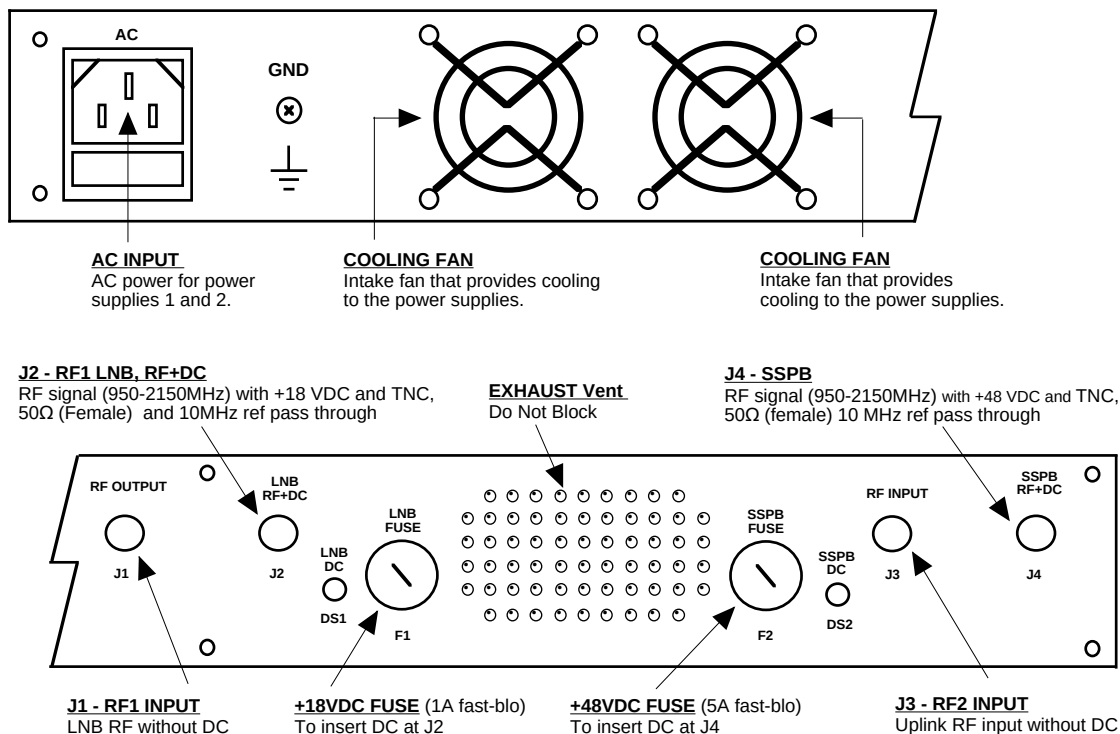

FIGURE 2.2 Rear Panel Outputs
Figure 2.2 shows the input and output signals and indicators on the rear panel.
1. Connect 950-2150 MHz receiver equipment to RF1 OUT, J1 (Fig. 2.2).
2. Connect RF1+DC OUT, J2, to LNB (Fig. 2.2).
3. Connect RF2 +48VDC, J4, to SSPB (Fig. 2.2).
5. Enable FP LNB Power Switch if +18VDC, 1.0A max. is to be inserted on J2 (Fig. 2.2).
6. Enable FP SSPB Power Switch if +48 VDC, 5A max. is to be inserted on J4 (Fig. 2.2)
7. Connect 100-240 $\pm$ 10% VAC, 47 - 63 Hz to AC connector on the rear panel (Fig. 2.2).